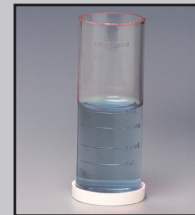

Fig. 2
5. Add R-0699 Iodide Iodate Reagent dropwise, swirling and counting after each drop, until sample changes from colorless to a faint but permanent blue (Fig. 2).